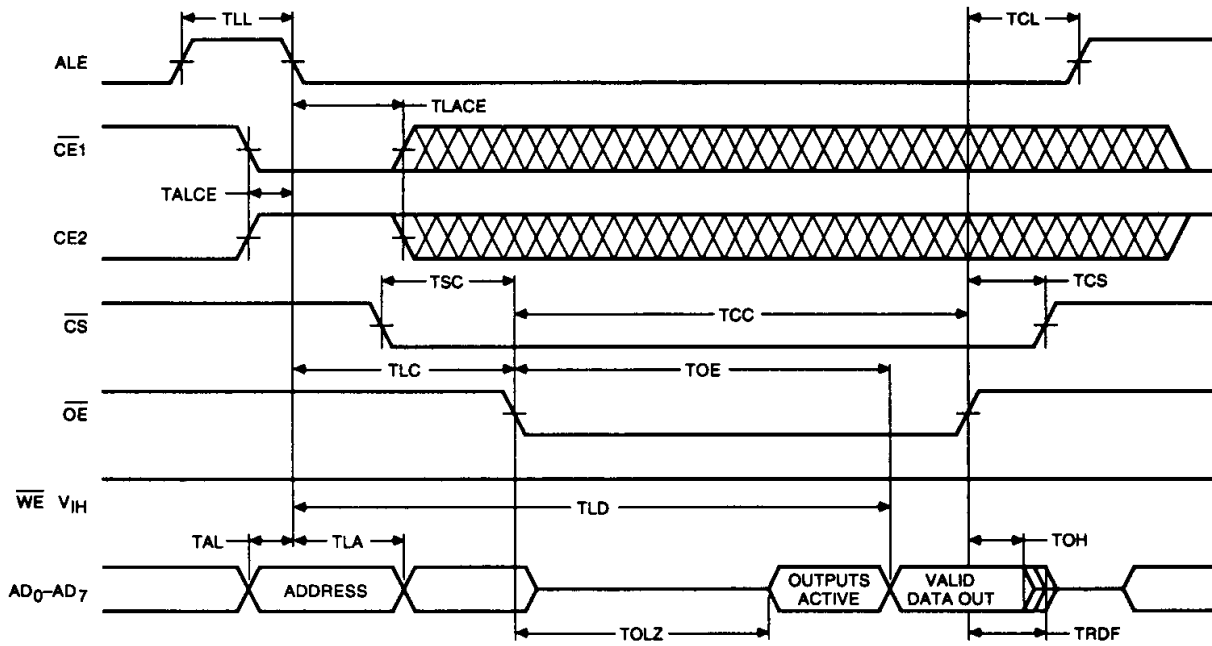

Figure 2. Read Timing
Figure 2 shows the timing diagram for READ operation. The address as well as the states of $\overline{\text{CE1}}$ and CE2 are latched on the falling edge of ALE. Pins 1 through 7 are used for address bits.
*See Figures 2 and 3.